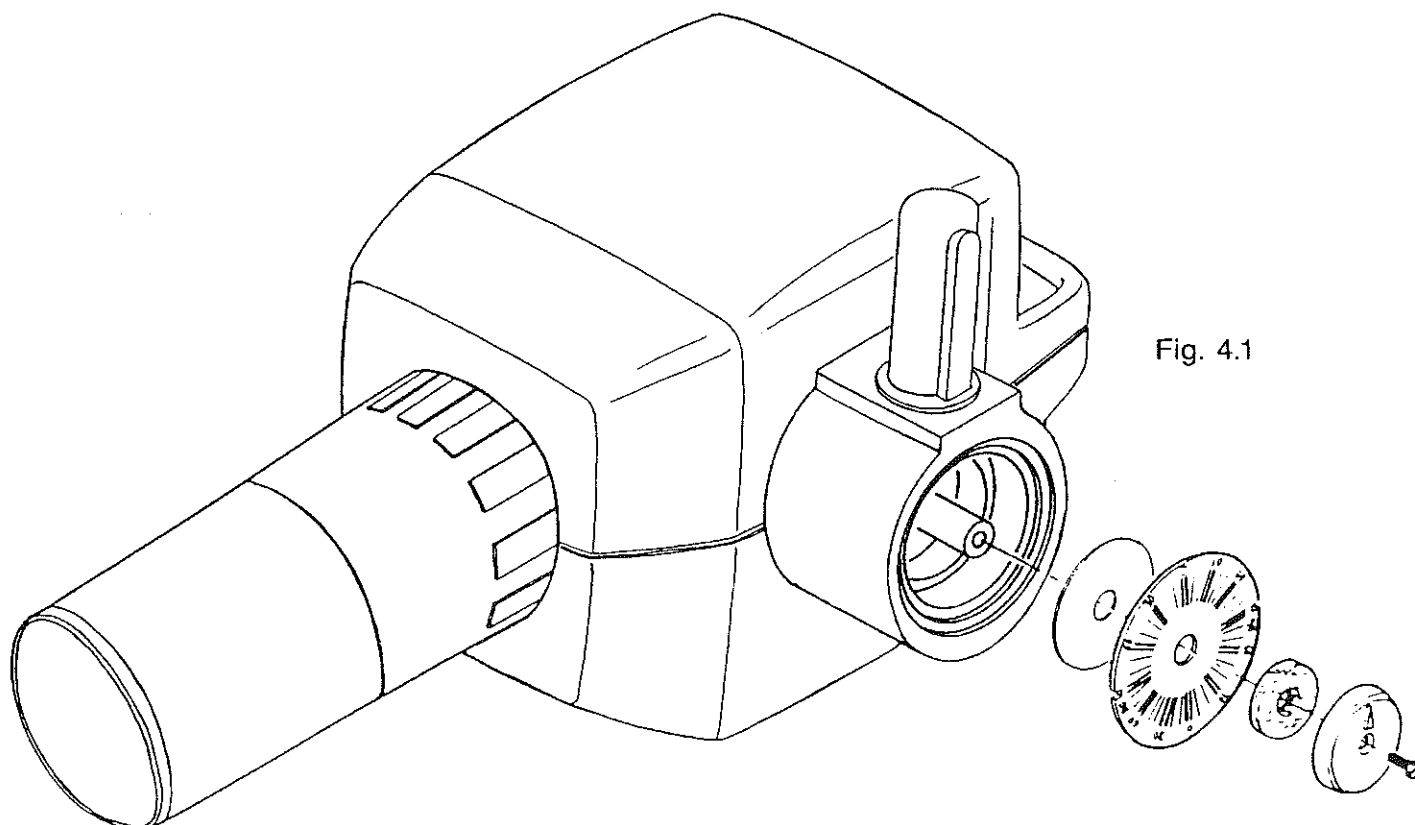

Fig. 4.1
To adjust the voltage distributor switch the timer OFF, then remove the plastic cover from the rotating part on the tube housing assembly. (fig. 4.1)
- 10) Remove the tubehead pivot plastic cover (fig. 4.1)